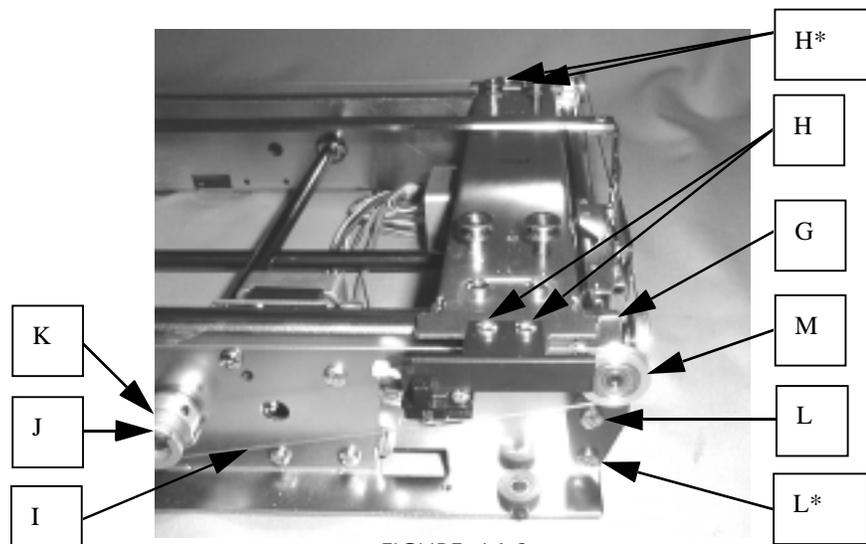

FIGURE 14-2
3. Bring the Y-carriage (F) toward the sensor until it touches stopper (G) as shown in Fig.14-2.
4. Remove setscrews (H)(H*), and separate the wire (I) and Y-carriage from each other. Fig14-2.
5. Fix the wires being wound on the pulleys securely by grip bands (K) so that the right and left wires (I) are not loosened from pulley (J) as shown in Fig.14-2.
6. Loosen setscrew (L*) and setscrew (L), and tilt down wire pulley (M). Fig.14-2.